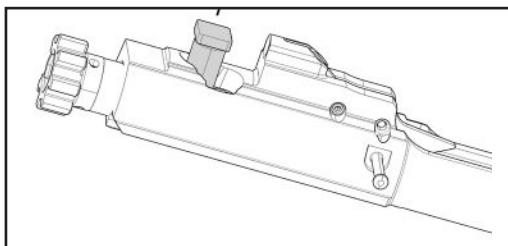

Fig. 40 – Remove the Cam Pin
- e. Lift up and remove the cam pin from the shaft of the bolt head (Fig. 40).